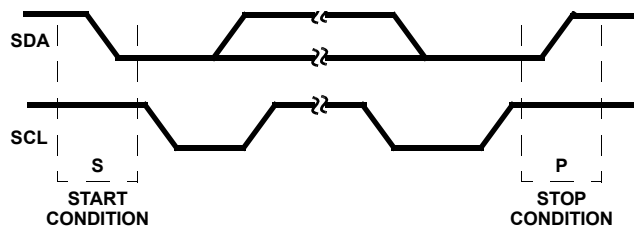

FIGURE 17. START AND STOP WAVEFORMS
As shown in Figure 17, a START (S) condition is a HIGH to LOW transition of the SDA line while SCL is HIGH.